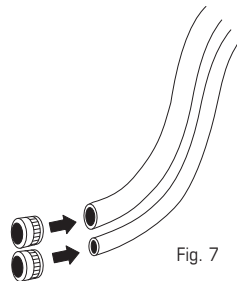

Fig. 7
2. With the threads facing out, **push** the large nut onto the large tube and the small nut onto the small tube (Fig. 7).